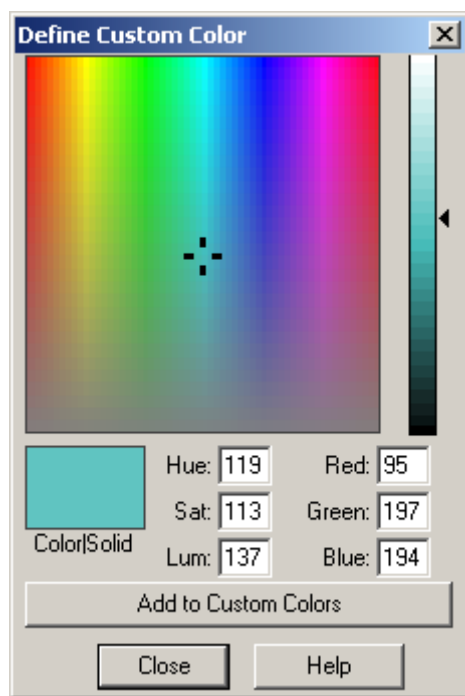

Figure 6-30 Define Custom Color dialog
2. Select **[Define Custom]** in the Color dialog. The Define Custom Color dialog displays. See Figure 6-30.